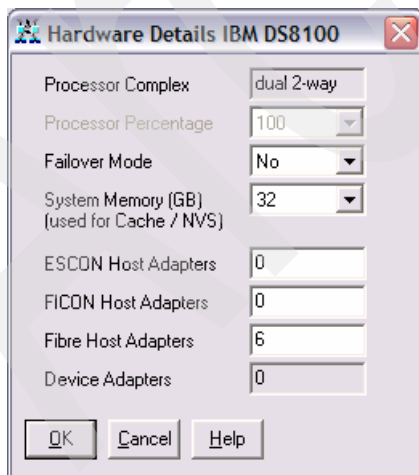

Figure 4-31 Disk Magic: Specifying hardware details of DS
- b. Click the **Hardware Details** button. In the Hardware Details window (Figure 4-31), for System Memory, choose the planned amount of cache, and for Fibre Host Adapters, enter the planned number of host adapters, and click **OK**.